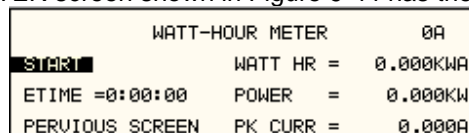

Figure 9-44: Watt-Hour Meter Screen
- The WATT-HOUR METER screen shown in Figure 9-44 has the following fields: